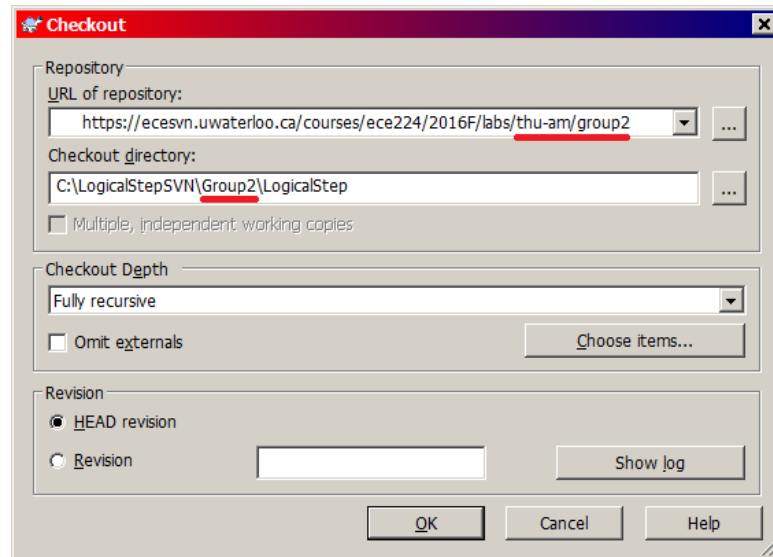

Figure 41: SVN repository checkout
3. You must ensure the ‘URL of repository’ details are changed to match your groups session – these details are underlined in Figure 41. The lab session is denoted by the first three letters of the day followed by ‘am’ or ‘pm’ separated by a hyphen. Thursday morning group 2 is shown in the figure. Then click ‘Okay’ to check-out the repository.